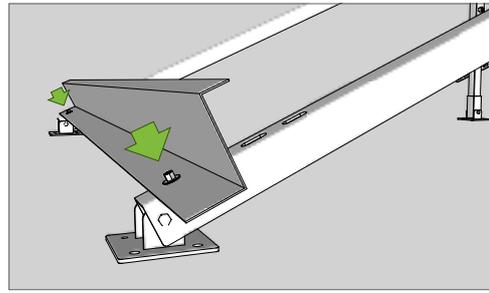

Fig 4
- Using the supplied M8 bolts, washers & nuts, securely fasten the Z-frame rail to the side section through the lowest slotted hole as shown in fig 4.